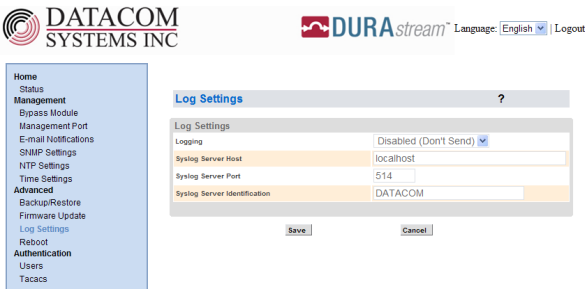

Figure 26. Log Settings
Figure 26. Log Settings, shows the Log Setting options which enables or disables forwarding log messages in an Internet Protocol (IP) computer network. It allows separation of the software that generates log messages from the system that stores the messages.